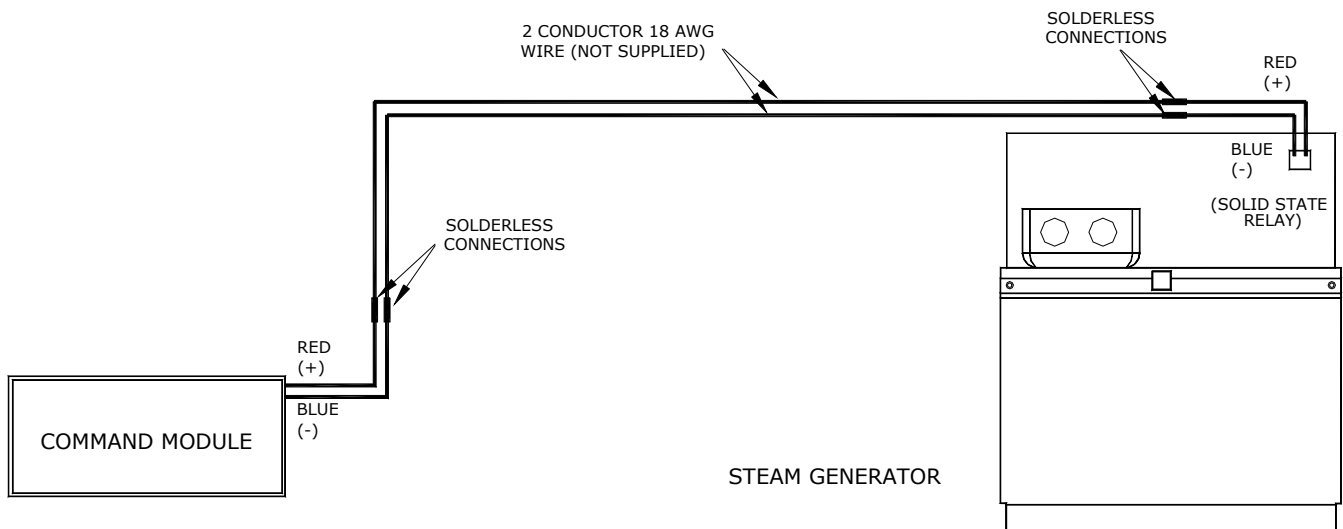

Figure 14
2. Connect 2-Conductor 18 AWG wire from the Pro-Heat PCB Module in the Command Module to the lines coming out of the stacking box that is mounted on top of the steam generator. The wires are labeled "PRO-HEAT" on both ends (see Figure 14).